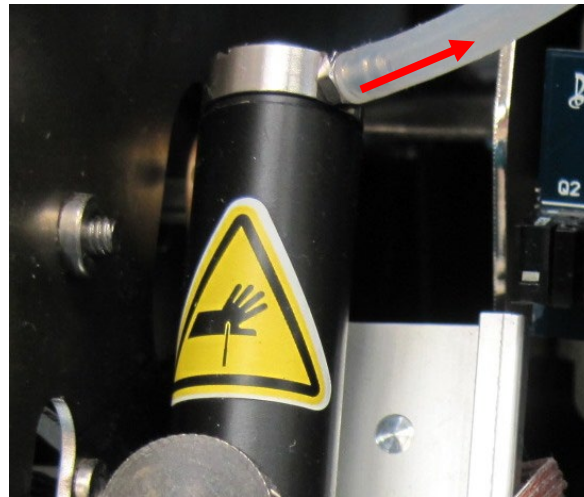

Figure 7
- 3.1. Remove the Wash Tubing from the top of the Probe Tube. Figure 7